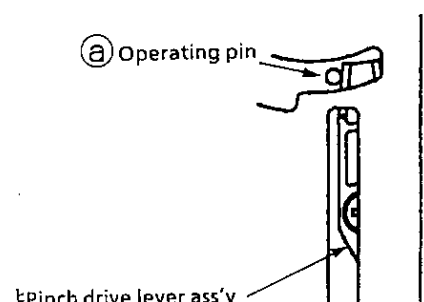

Figure 7-5-9(b).
- 3) Insert the operating pin ③ of the pinch roller lever ass'y ① in the position as shown in Fig. 7-5-9(b).